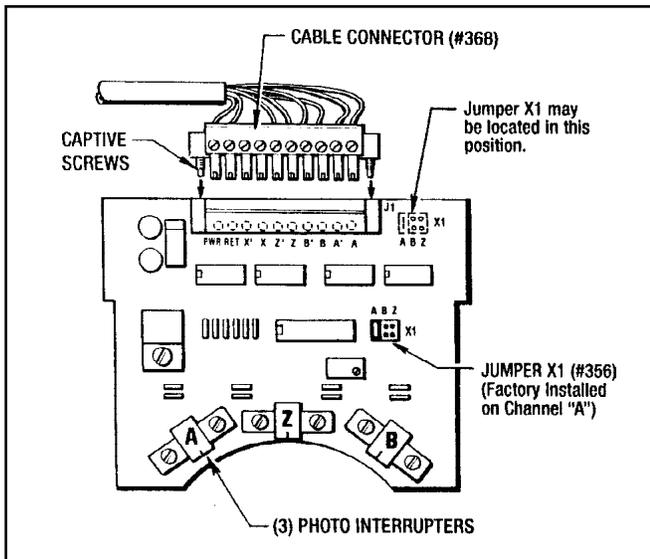

Figure 7.2 - Circuit Board Connector
2. Take out the (4) Screws (#225) and remove the Top Cover (#372) and the Upper Gasket (#19) from the Upper Enclosure (#18). This gasket is reusable.
4. Loosen the (2) captive screws in the Cable Connector (#368) and unplug it from the Circuit Board (#355) (See Figure 7.2)